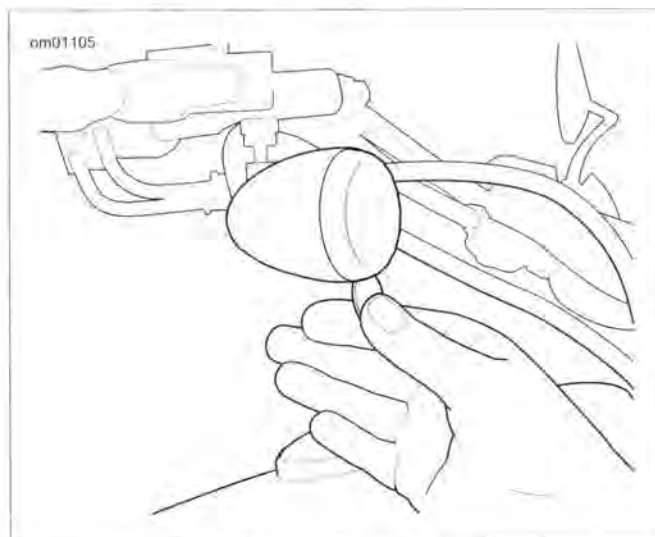

Figure 7-44. Turn Signal Lens Removal: Bullet Style
1. See Figure 7-44. Insert a coin or the blade of a small screwdriver into the notch at the bottom of the lens cap. Carefully twist until the lens cap pops out of the lamp housing.